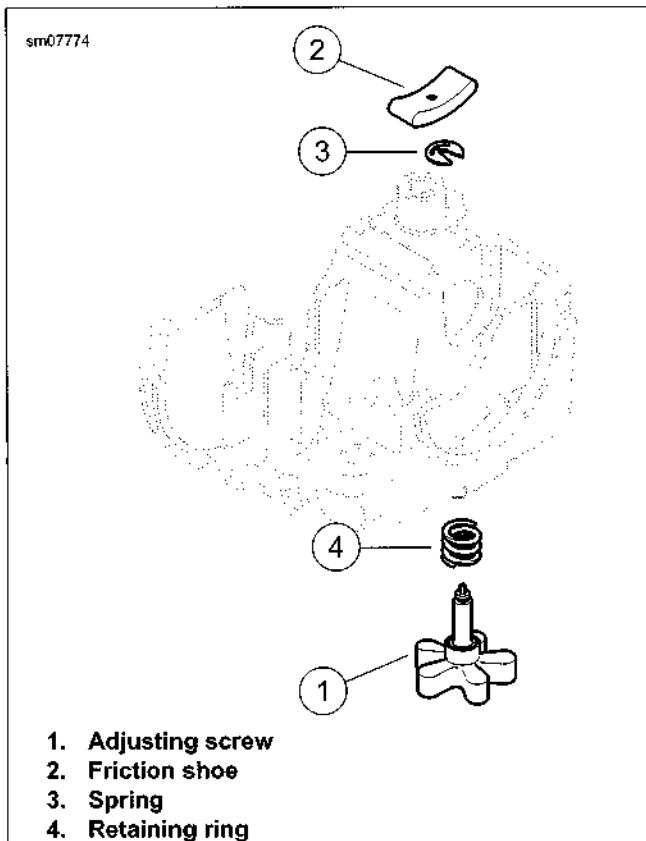

Figure 2-118. Throttle Adjusting Screw
1. See Figure 2-118. Thread throttle adjusting screw (1) all way out.
2. Remove friction shoe (2) from switch housing.
3. Remove retaining ring (4) from screw. Remove spring (3).